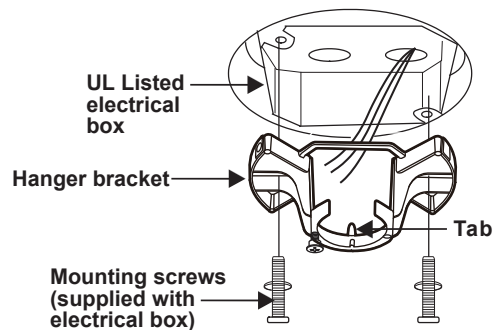

Figure 6
3. Secure the hanger bracket to the ceiling outlet box using screws and washers included with your outlet box. (Fig. 6)
1. Connect the fan supply (black) wire to the black household supply wire as shown in Figure 6.